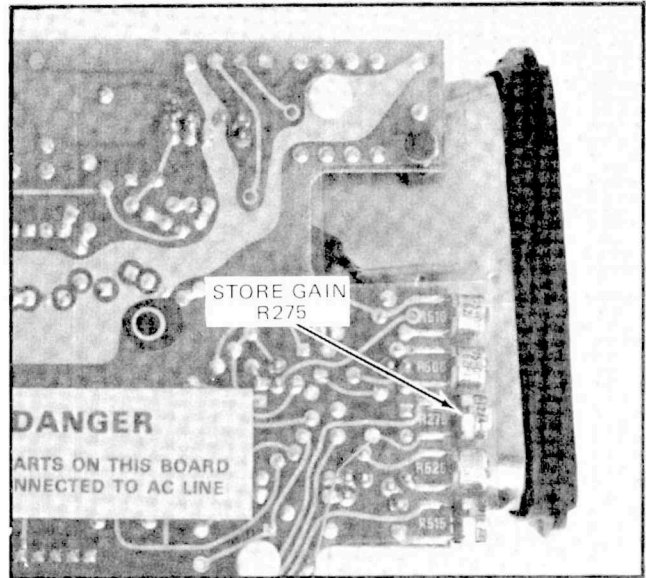

Fig. 4-7. Location of Store Gain adjustment.
- ADJUST**—Store Gain adjustment, R275 (see Fig. 4-7) for exactly four divisions of deflection.